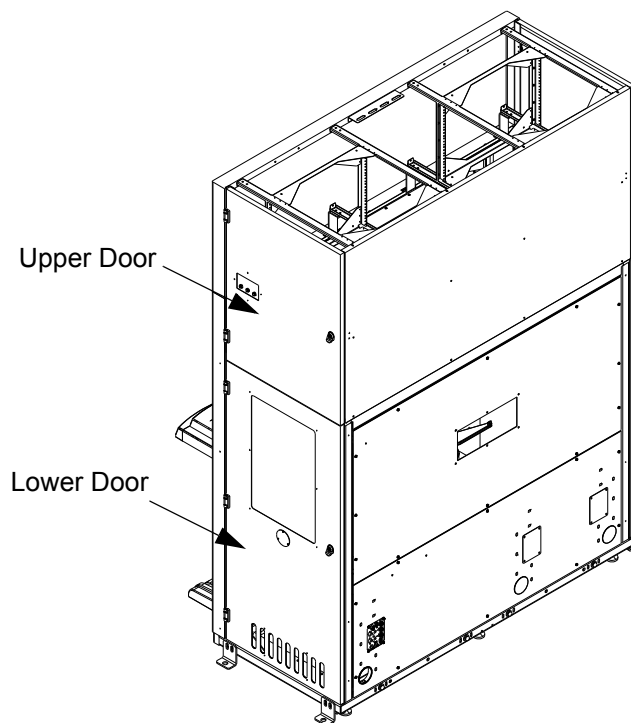

Figure 8-2: Access the FFU
4. Access the FFU on the top of the Jet system. See Figure 8-2.